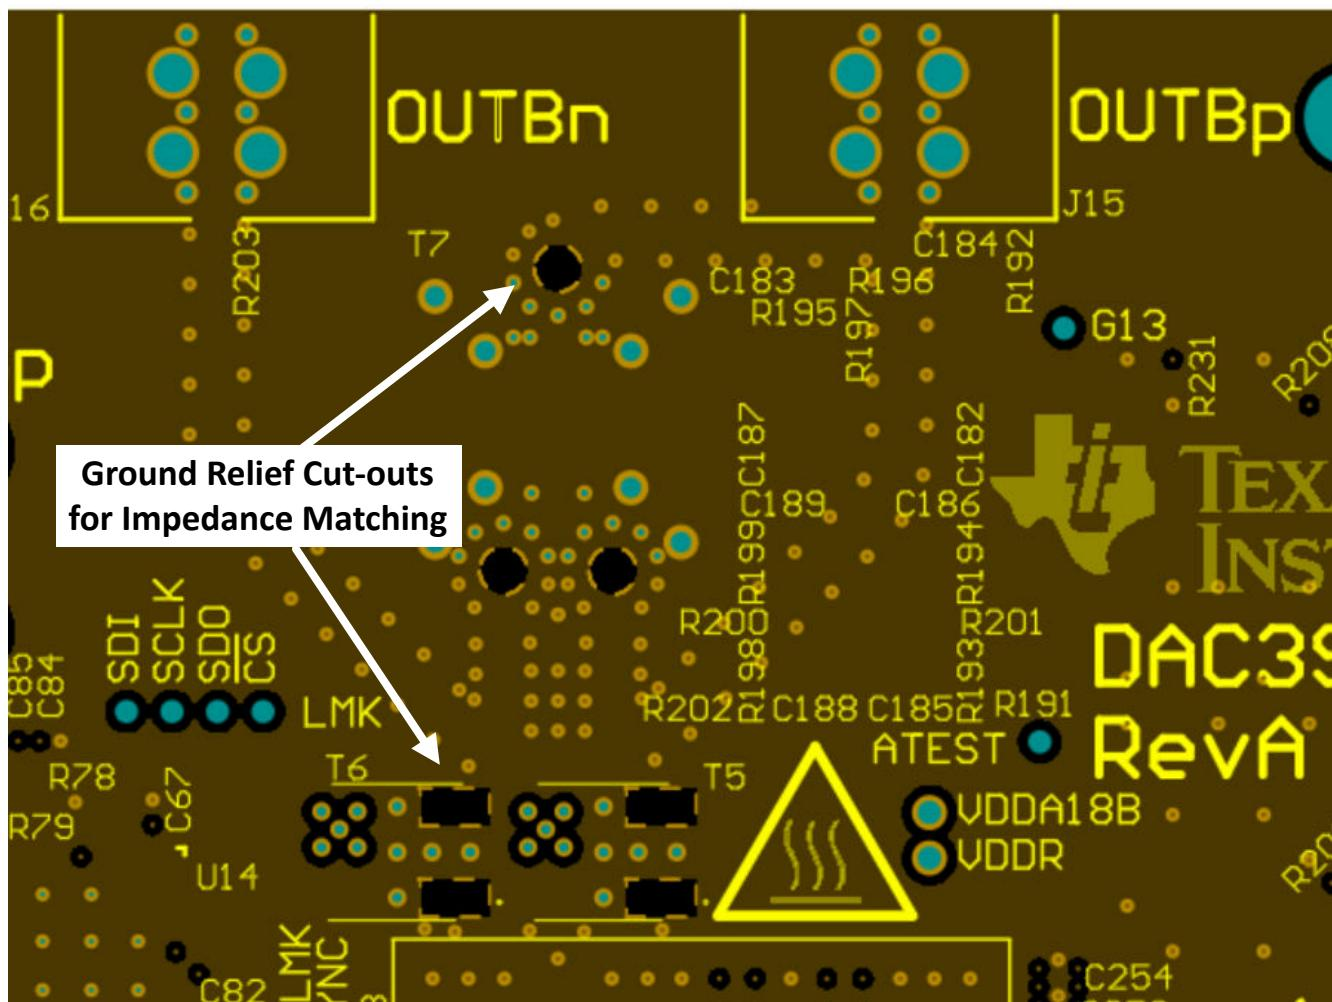
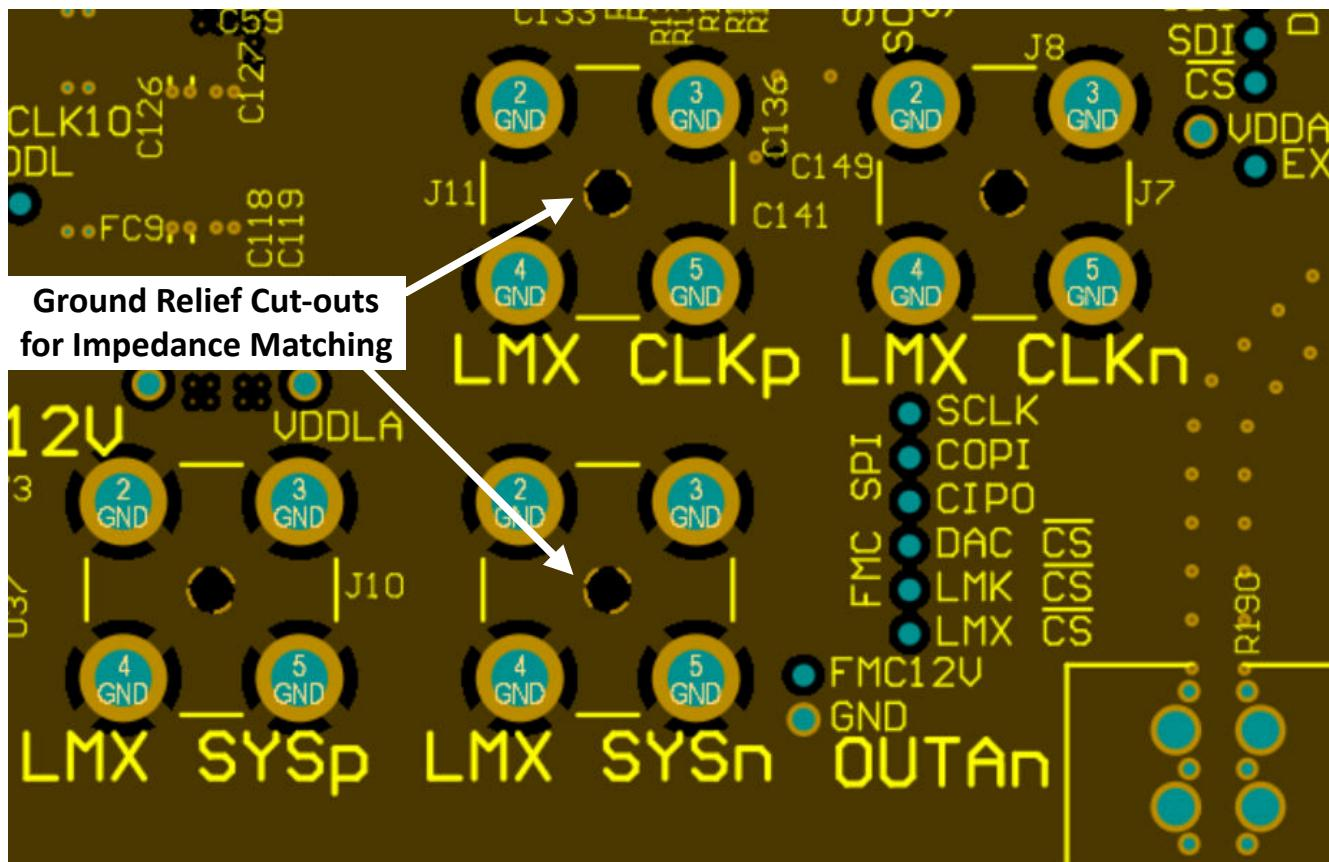

Figure 8-25. Ground Cut-outs below Balun and Bias-T Pins
Figure 8-26. Ground Cut-out Below SMA Connector Center Pin
5. Incorporate any ground plane cutouts necessary at component landing pads, ie – SMA connectors, baluns, and so on, to avoid impedance discontinuities at these locations. Cut-outs below these landing pads on one or multiple ground planes to achieve a pad size or stackup height that achieves the needed 50Ω , single-ended impedance. See Figure 8-25 and Figure 8-26 as an examples.